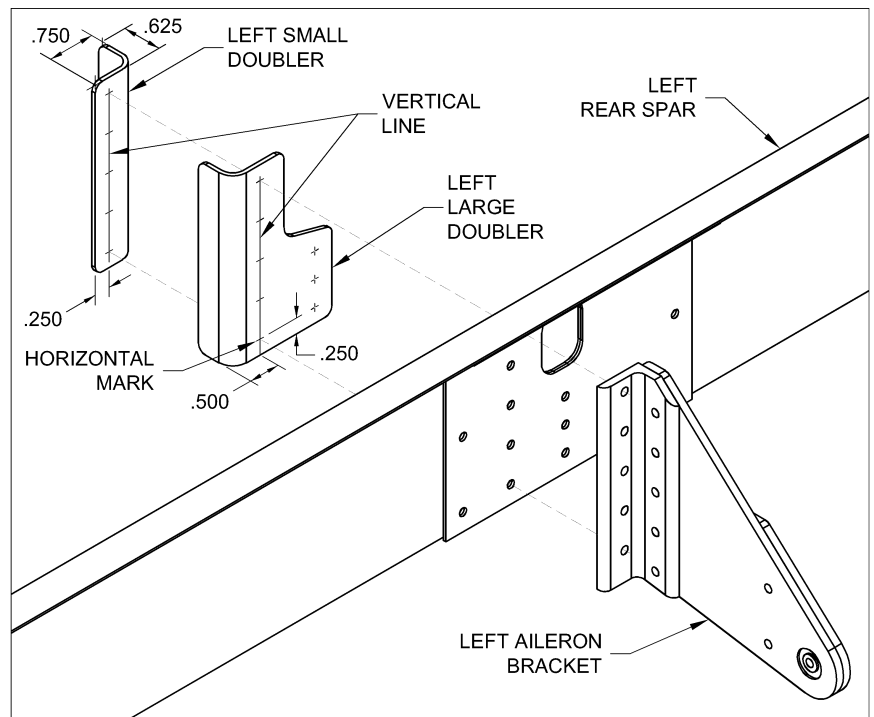

FIGURE 11: MATCH-DRILLING THE AILERON ATTACH DOUBLER
Step 16 (RV-3 & 4 only): The small doubler has a .750 in. [19.1mm] flange and a .625 in. [15.9] flange; draw a vertical line on the .750 in. [19.1mm] flange .250 in. [6.4mm] from the edge as shown in Figure 11.
Step 19 (RV-3 & 4 only): Place the small doubler on the forward side of the large doubler, as shown in Figure 11, and flush the top and bottom edges. Center the vertical line on the small doubler in the holes of the large doubler, clamp the parts together, then match-drill #30 the holes of the large doubler into the small doubler. Deburr the holes of both doublers.